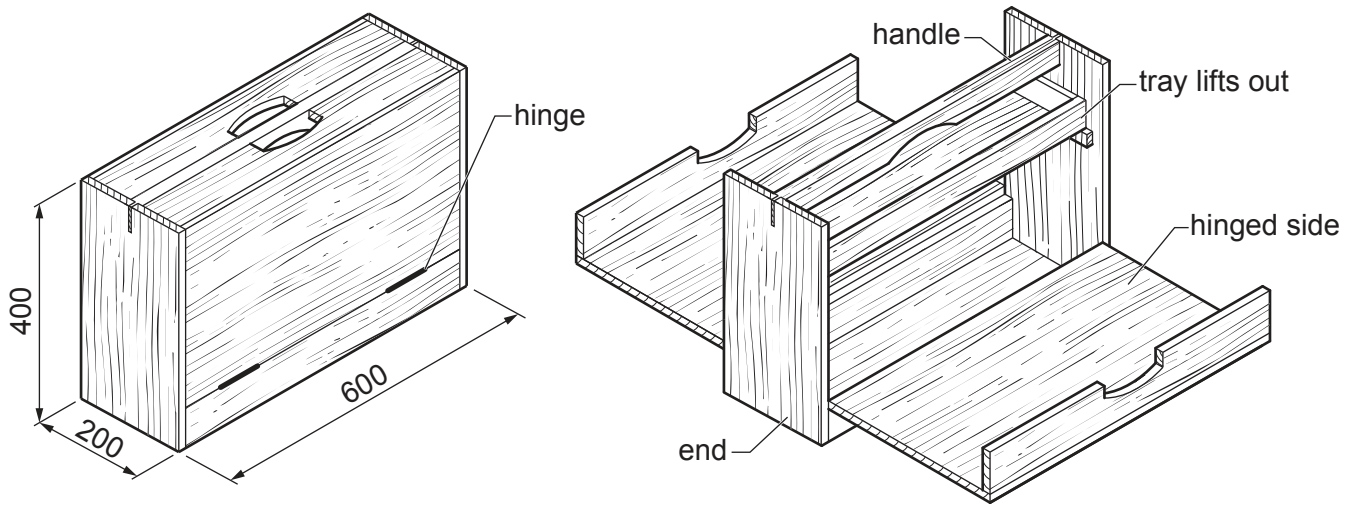

Fig. 11.1
- 11 Fig. 11.1 shows a portable toolbox made of softwood.
- (e) Use sketches and notes to show how the hinged sides shown in Fig. 11.1 could be held securely and prevented from opening when the toolbox is carried.
Give **three** advantages of using a toolbox made from plastic rather than the toolbox made from softwood shown in Fig. 11.1.